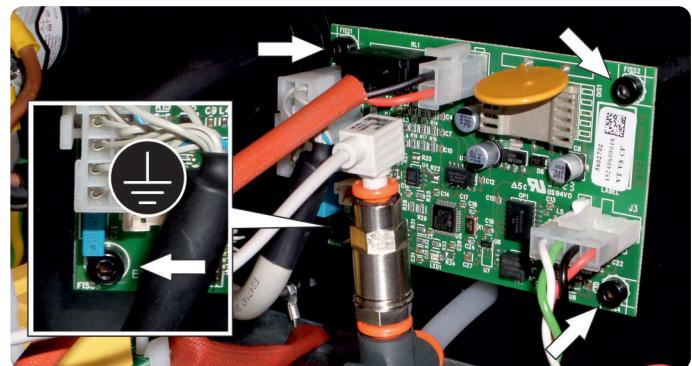

Fig. 2
- ◆ Using the 4 M4 screws supplied and the holes just created, fix the 3 plastic spacers and the brass one inside the rear panel, positioning the latter in correspondence with hole A (see fig.2) and placing between the head of the M4 screw and the rear panel the toothed supplied washer
- ◆ Fix the 5602702 CNC interface circuit (pos.1 ) to the four spacers using the 4 M4 screws supplied as indicated in fig.2